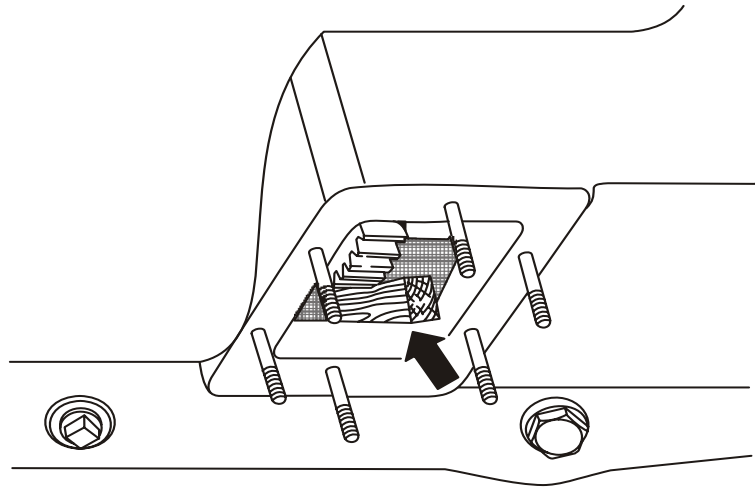

Figure 9 Wedge Location
- Insert a wooden wedge between the transmission PTO drive gear and the transmission housing (see Figure 9).